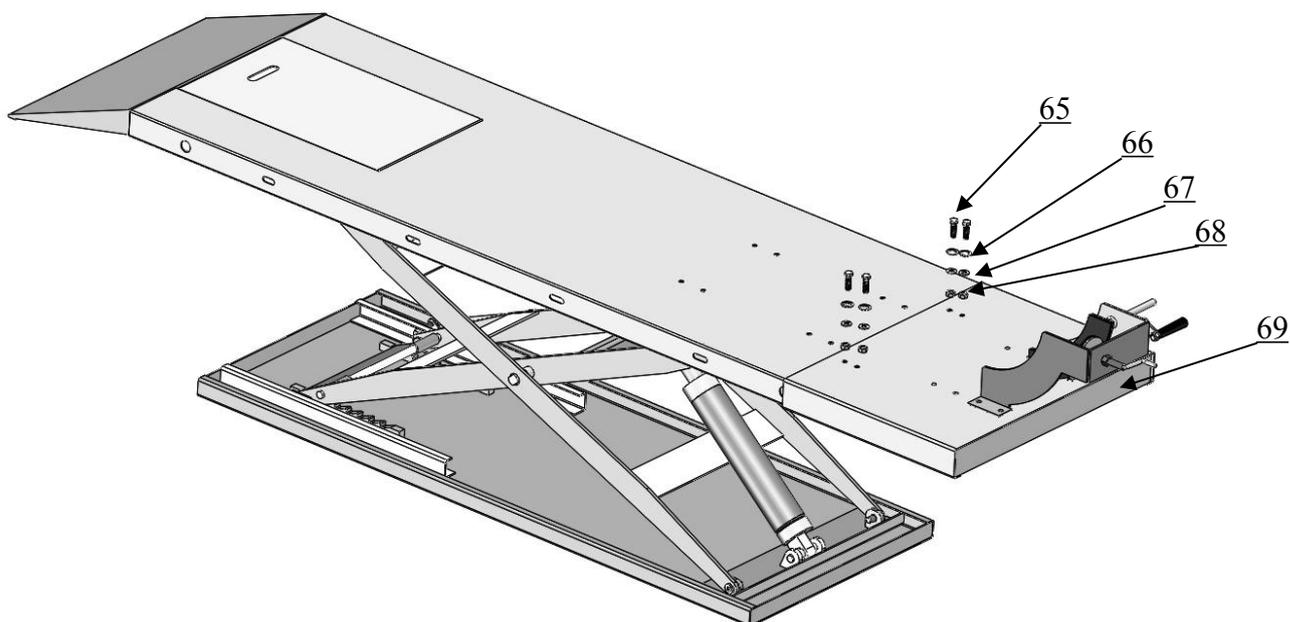

Fig.9
E. Install Optional Length Extension Kit (MC002) . See Fig 9